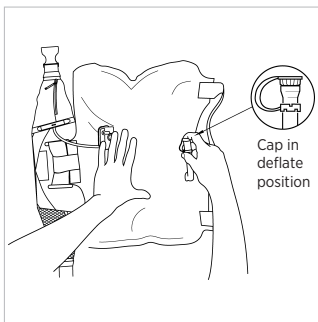

FIGURE 11 DEFLATE POSITION
2. Deflate using the oral tube (see Fig. 11).